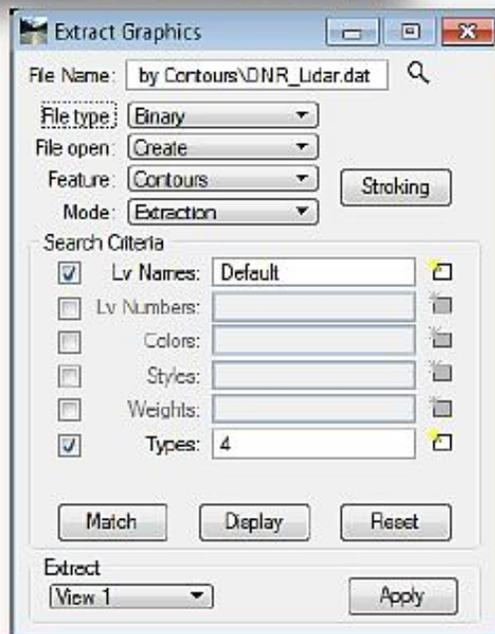

Figure 14 ~ Extracting Contours
- 3) On Sheet 14, Step 17, use Figure 14 as a guide.